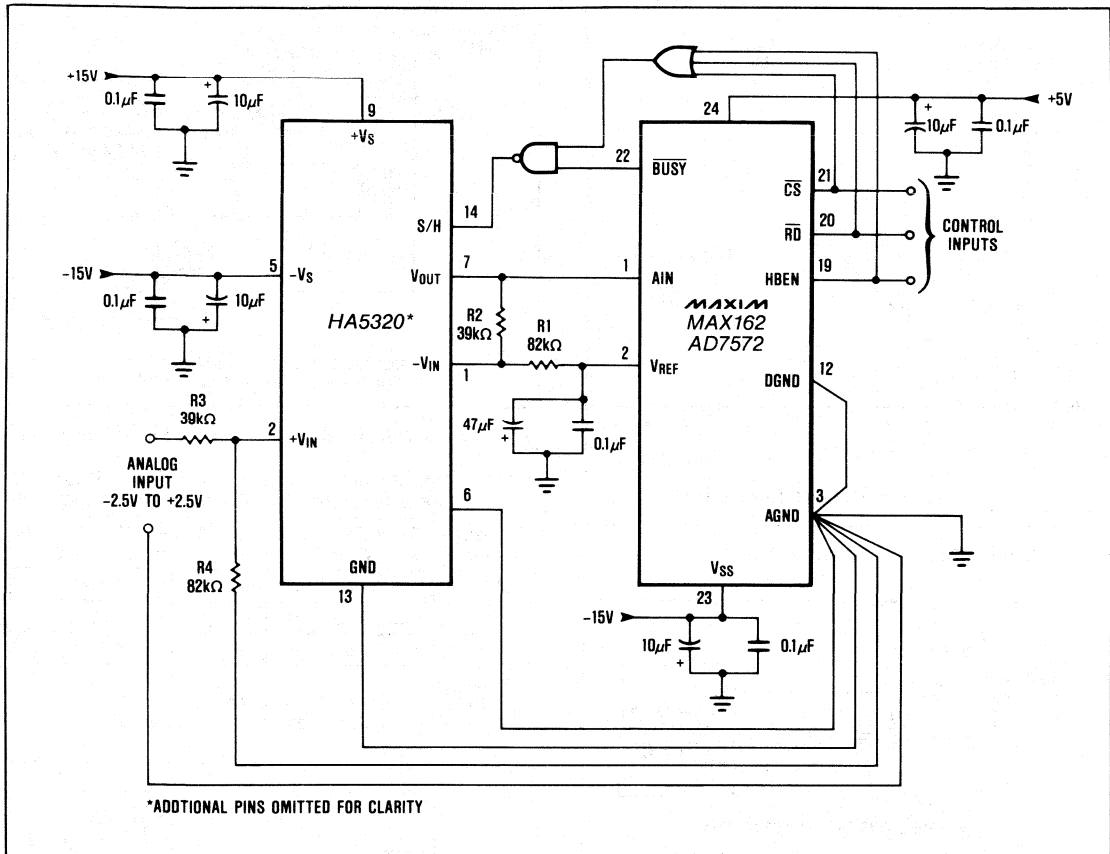

Figure 16. MAX162/AD7572—HA5320 Sample-and-Hold Interface
**MAX162** Figure 16 shows the MAX162 to HA5320 interface. The maximum sampling rate is 210kHz with a 4MHz clock which allows for a  $1.5\mu\text{s}$  acquisition time. The HA5320 can also be replaced by a HA5330 for higher throughput.